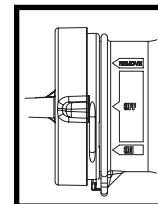

Figure 7
- Before rinsing, move indicator on cap to "OFF" position to shut off soap (Figure 7).